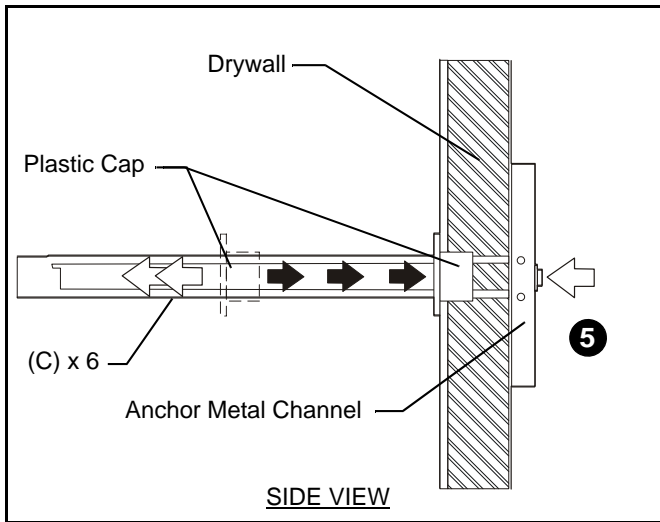

Figure 5
4. Holding plastic straps on anchor (C), pull anchor away from wall until channel rests flush behind wall making sure anchor channel is positioned vertically on stud. (See Figure 5)
5. Slide plastic cap on anchor (C) towards wall until flange of cap is flush with wall. (See Figure 5)